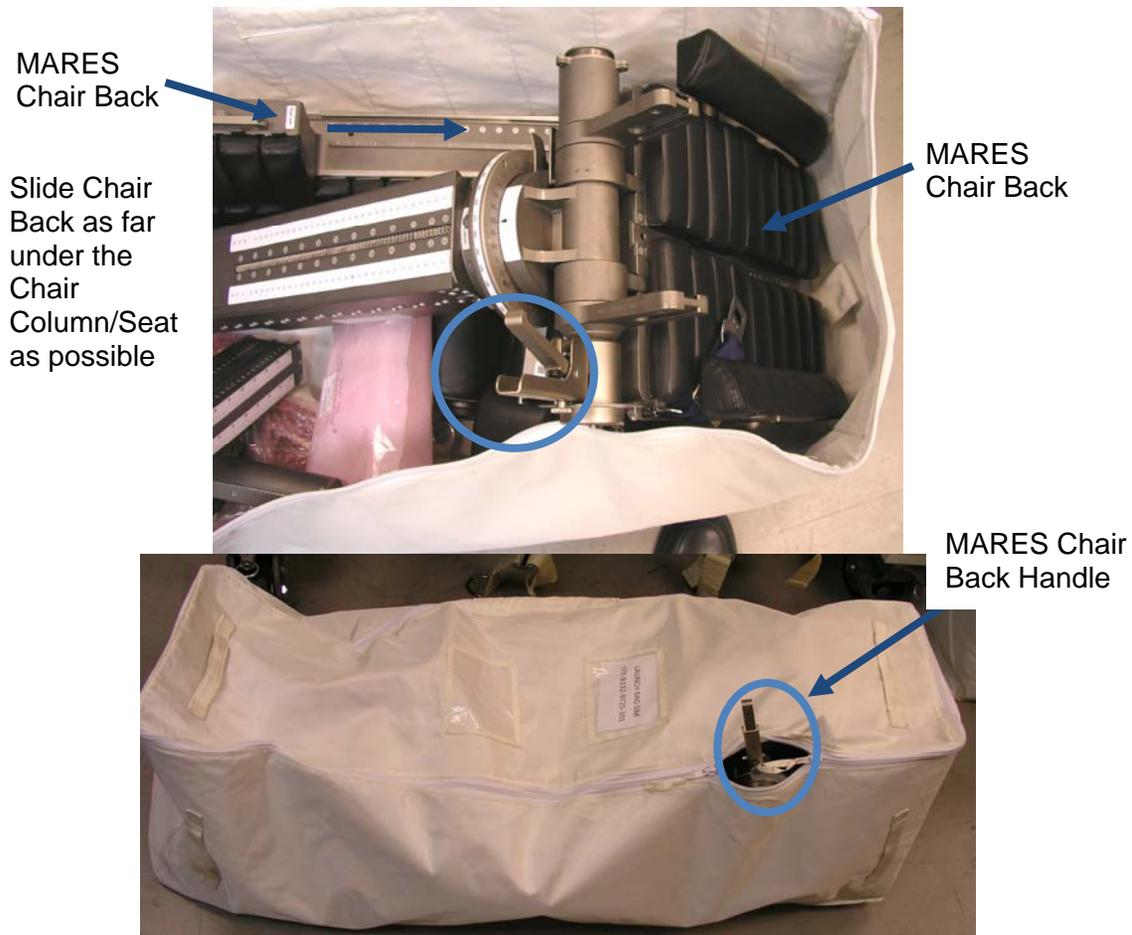

Figure 10.- MARES Chair Seat or Column Orientation in MARES Launch Bag (the circle indicates the Seat handle protruding outside Bag).
- 5.9 Transfer hardware from M01 Bag into MARES Stow Bags 1 to 3, empty 1.0 CTB, and MARES Launch Bag. Use Jettison Stowage Bag to temporarily stow any Foam pieces when unloading M-Bag. Restow all Foam back in M-Bag for return. Refer to Table 2 and MARES Stow Bag Cue Cards. Refer to Figure 10.